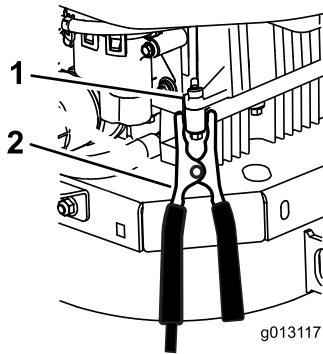

Figure 64
6. Make the final connection on the engine block of the stalled vehicle (not to the negative battery post) away from the battery and stand back (Figure 64).